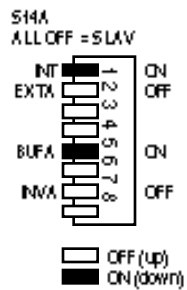

FIGURE B-6. INTERNAL/CHANNEL SPLIT TIMING
With Internal/Channel Split Timing, illustrated in Figure B-6, the DSU provides the send timing source (1) for T1 data output from the transmit buffer (2) to the network. (This clock satisfies the requirements of a Stratum 4, Type II clock, as defined in PUB 62411.) The remote DSU uses this as its timing reference (3) and loops it back to the DSU (4). The DSU recovers the receive T1 clock from the network receive T1 data and uses it to clock T1 data into the receive buffer (5). The DSU also translates (6) the receive T1 clock to create the receive clock signal for the channel, on the appropriate interface lead. The customer equipment on the channel (or a device on the channel) must loop the receive clock signal back to the DSU on the Chnl Ext Clk lead (7).